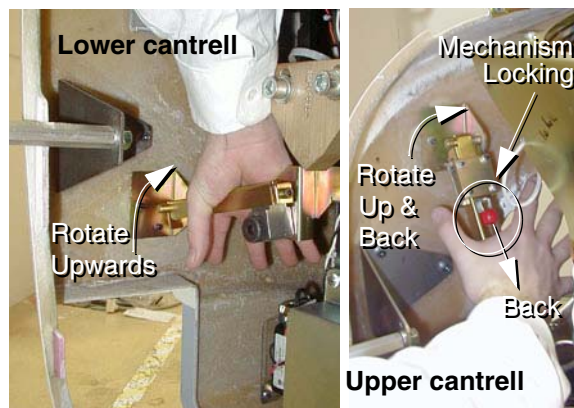

Figure A-11 Releasing cover brackets
associated retainers. See Figure A-11.
- 1.) Using steady but firm pressure, lift each of the lower cantrell brackets from their associated retainers. See Figure A-11.